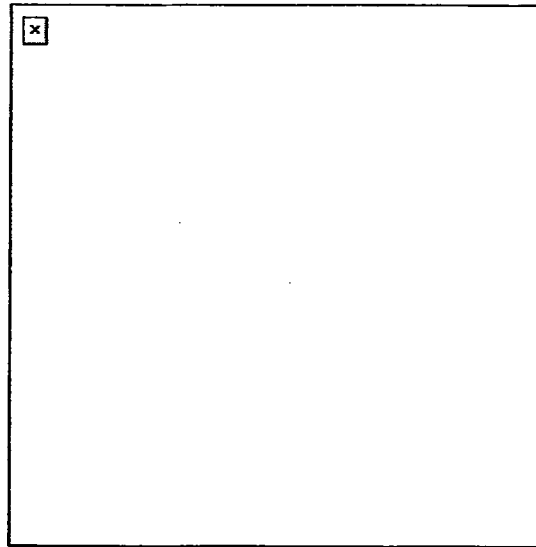

Figure 5. Standing position for mounted gun.
- c. Standing position for gun mounted on a vehicle pedestal (Figure 5).